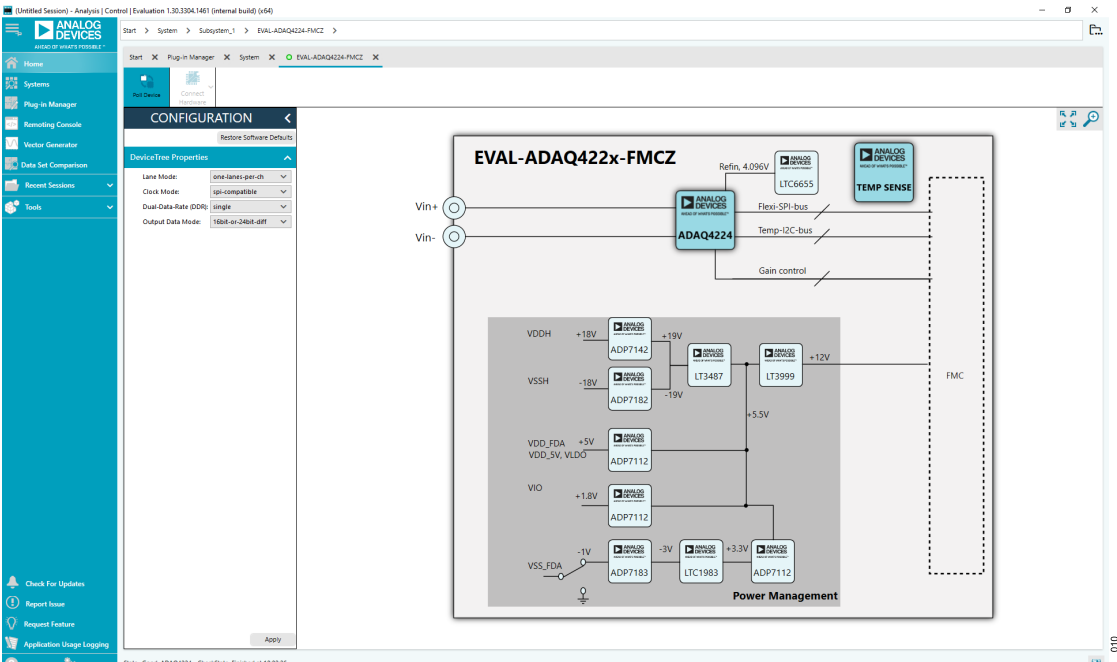

Figure 10. ADAQ4224 Board View Window
4. Double-click **ADAQ4224 Eval Board** icon to open the Board view tab, as shown in Figure 10.